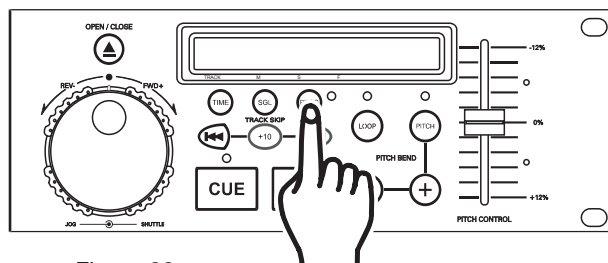

Figure 29
9) To cancel and clear the program press and hold down the **PROGRAM BUTTON (6)** for more than two seconds (see figure 29).